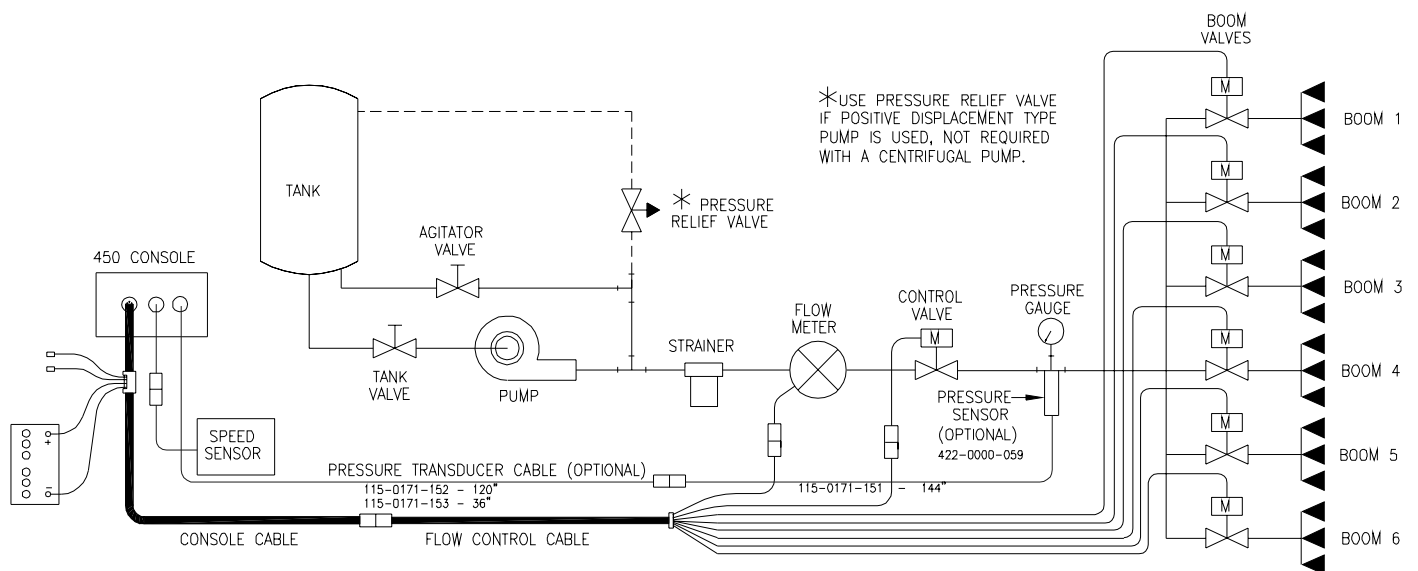

FIGURE 4
- 1) Mount Flow Meter in the area of the boom valves per **Figure 4**. All flow through Flow Meter must go to booms only, i.e., no return line to tank or pump after Flow Meter.